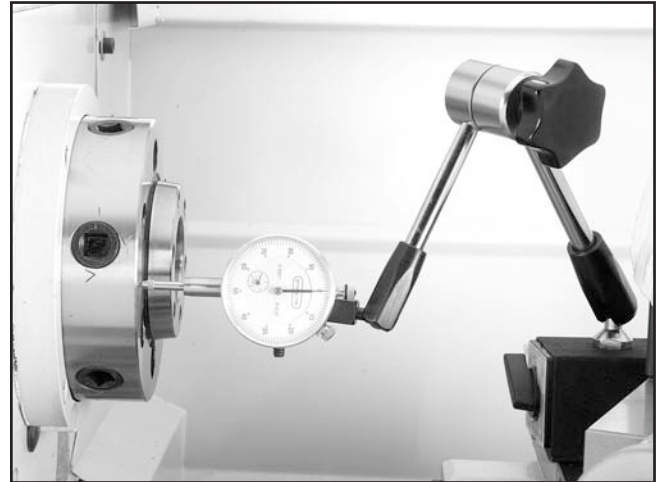

Figure 56. Dial indicator setup.
8. Place a dial indicator on the cross slide and move the carriage toward the headstock until the contact point of the indicator touches the spindle face (**Figure 56**).